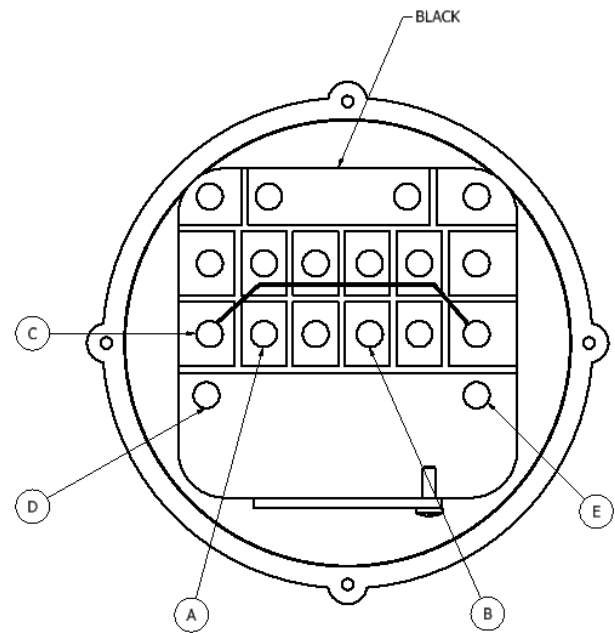

FIGURE 2:
6. Install HS650 gauge and attach labeled wires as shown in Figure 2.